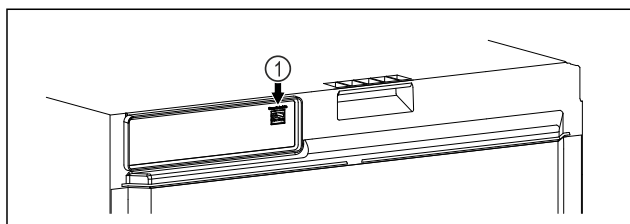

Fig. 127
- ☐ SmartModule Fig. 127 (1) has been inserted.